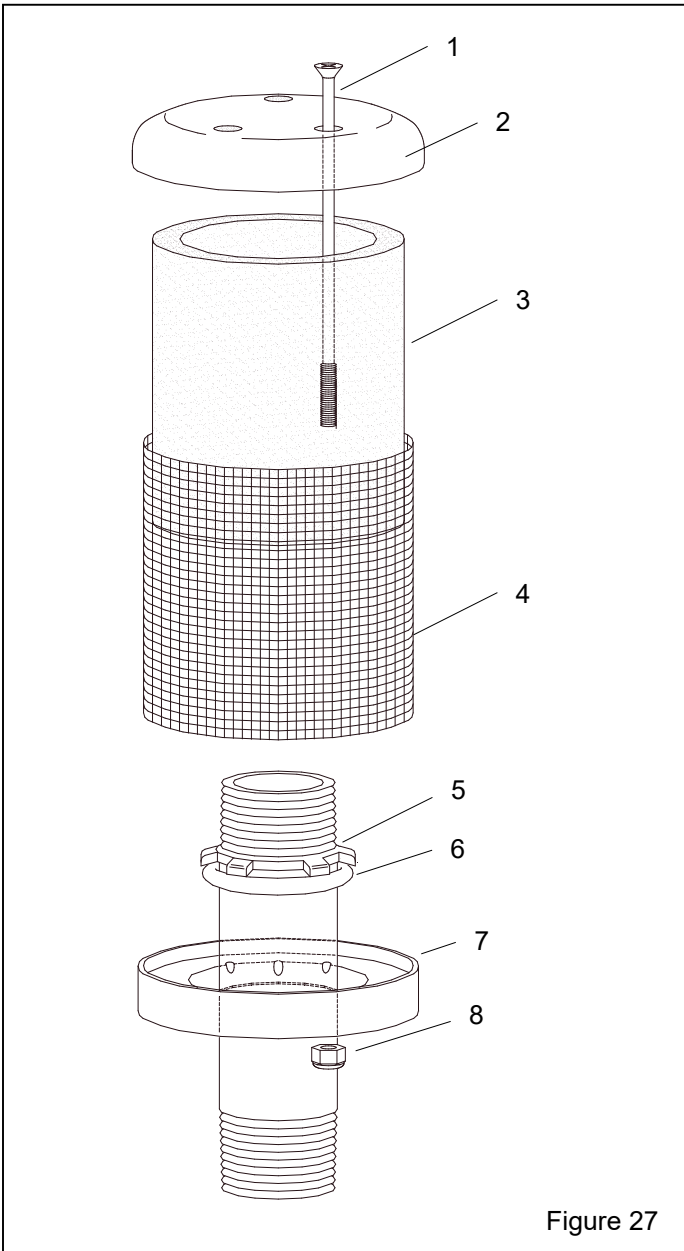

Figure 27
8.3 Exhaust Muffler – Figure 27